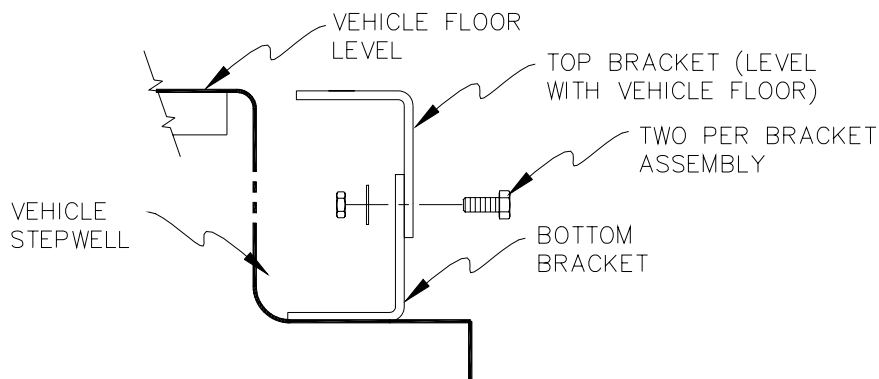

FIGURE 2-3: STEPWELL BRACKET
- Refer to **Figure 2-3**. Use four 1" x 3/8" bolts, 3/8" washers, 3/8" lock washers, and 3/8" hex nuts to assemble two bracket assembly kits.